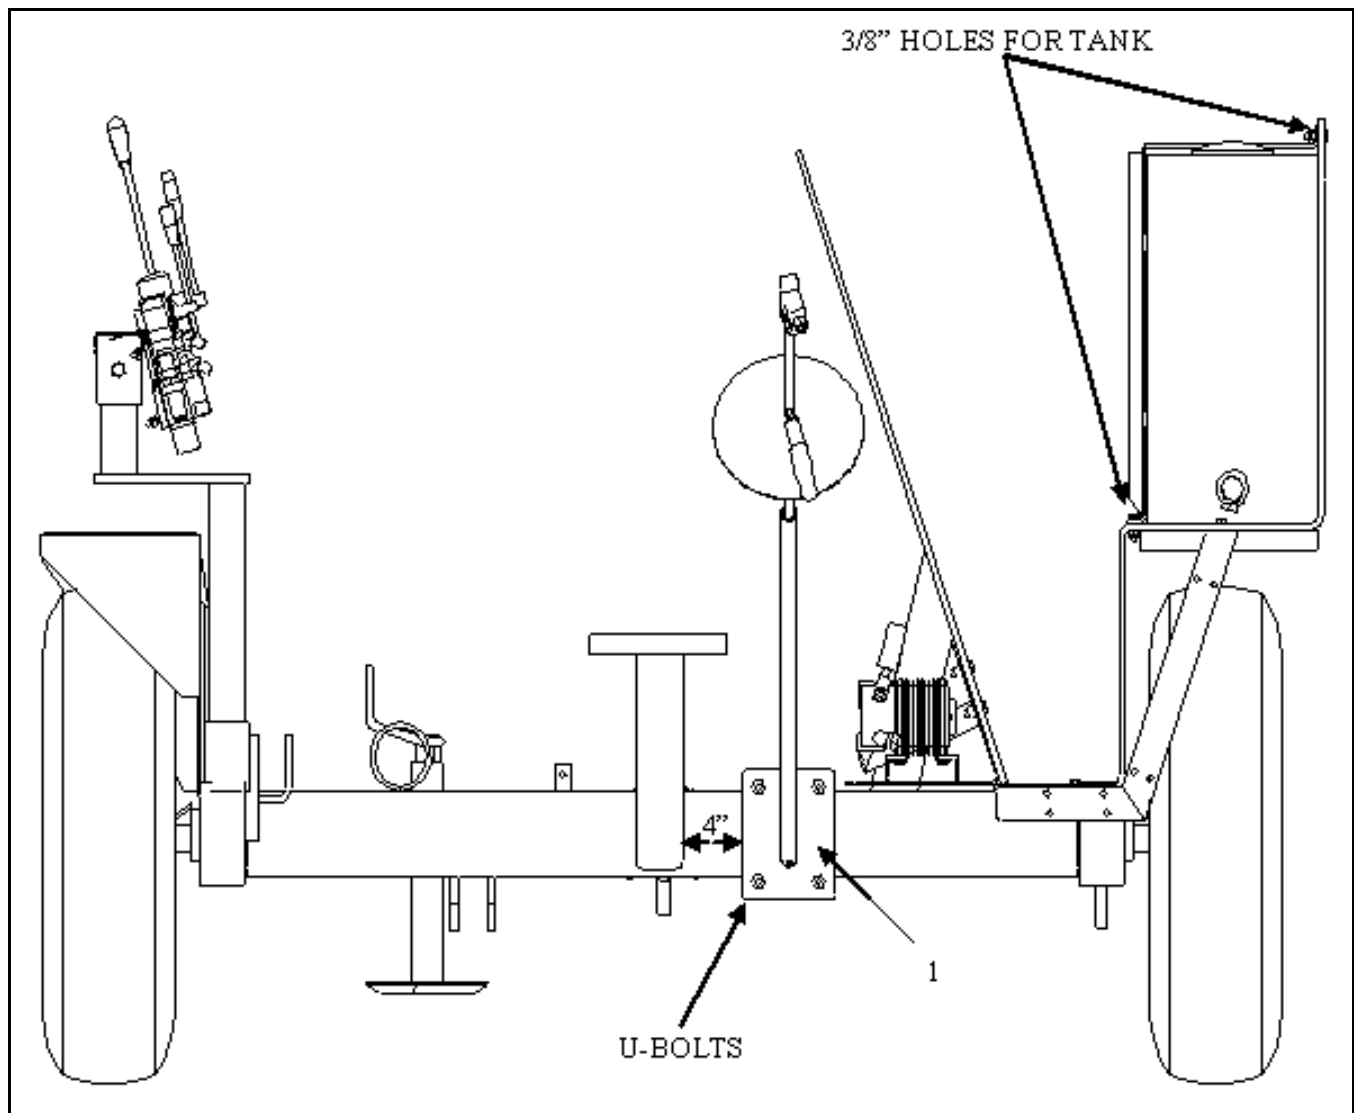

Figure 1.5 Tank and Wand Assembly
14. Attach the wand mount (1) to the frame of the post-pounder using two 5" u-bolts. The edge of the mounting plate and the engine mount tube should be spaced at a distance of 4" (Figure 1.5).